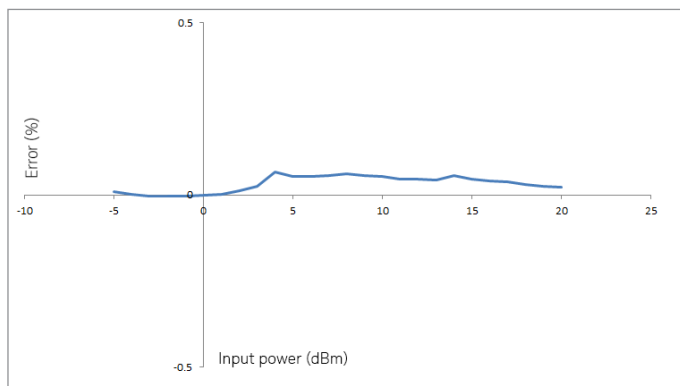

Figure 1. Typical U8480 Series power linearity at 25 °C with measurement uncertainty of ± 0.21%
1. After zeroing and calibration at room temperature. Power Linearity is negligible below -1 dBm. Linearity specifications do not include zero set, zero noise or measurement noise that dominantly contribute to the measurement uncertainty at the power levels within 10 dB of the lowest measurable power. Typical performance is given in Figure 1.